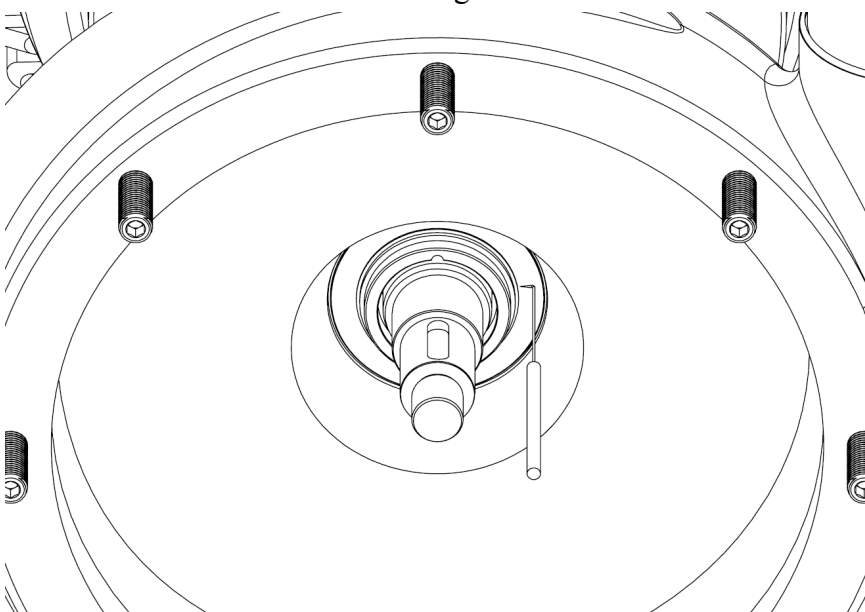

Figure 24
7. Pull out the rotating seal. You may have to use a pick to separate the rotating seal from the stationary seal while taking care not to scratch or damage the sealing surfaces, figure 24.